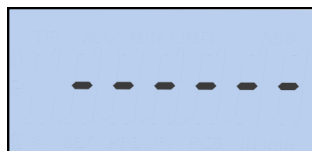
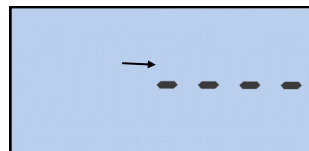

Fig.1B
Fig.1C
7. **Zero Sequence:** Zero the tool by pressing the **ZERO** Button. When you press the **ZERO** button the display will show a dashed line as seen in (Fig.1B). The dashed line will incrementally disappear from left to right (Fig.1C); Make sure not to move the spindle during this time. This is a visual reminder to wait for the tool to zero out. This will happen each time the tool is zeroed, and takes less than a second to complete.